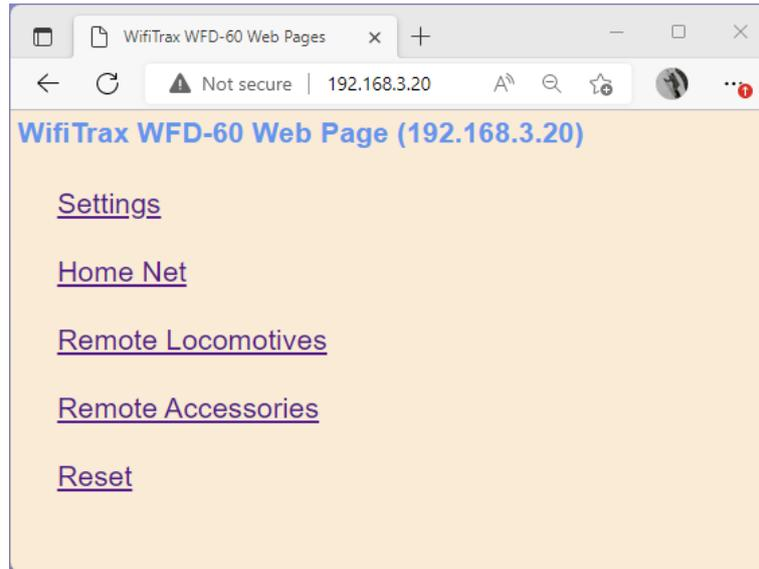

Figure 22 Use the IP Address to open the main menu web page
- f. Now open another tab in your browser and type the IP Address, 192 . 168 . 3 . 8 in this example, into the address bar to get the main menu web page of your module as Figure 22.